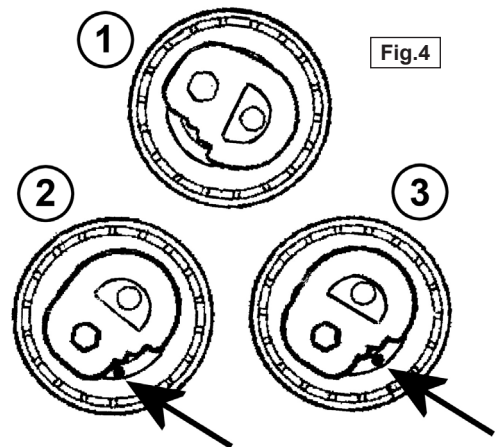

Fig.4
4.3 Belt Tensioner Positions (Fig.4)